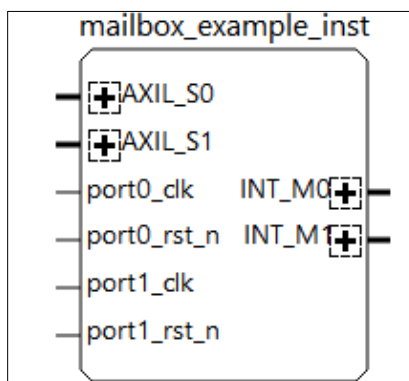

Figure 3.5. Generated Instance
6. The Mailbox IP instance is successfully generated, as shown in Figure 3.5.